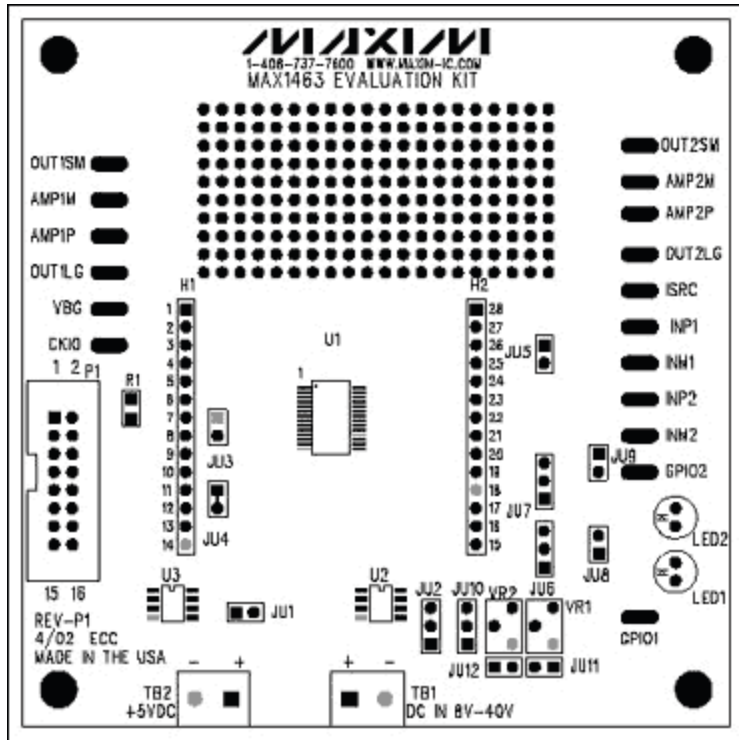

Figure 1. The MAX1463 evaluation board.
- See the MAX1463 evaluation board diagram in **Figure 1**.